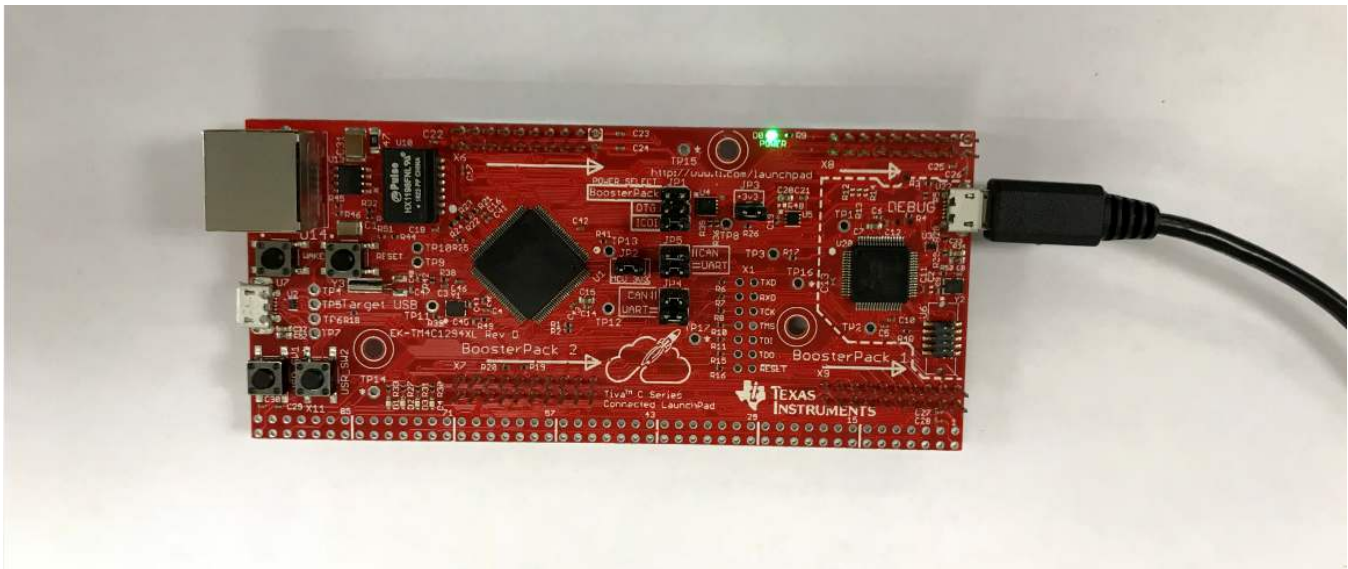

Figure 6. TM4C1294 LaunchPad™ Development Kit Software Programming Setup
2. Make sure the power select JP1 jumper on the TM4C1294 LaunchPad Development Kit is on ICDI. Connect the *Debug USB port* on the TM4C1294 LaunchPad Development Kit to the PC with a micro USB cable as shown in Figure 6. This must light the green power LED D0 on the TM4C1294 LaunchPad Development Kit.